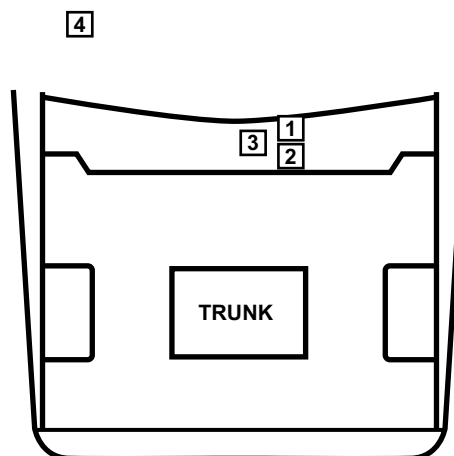

Figure 15-7 XT and XT6 common connector locations
- “XT and XT6 common connector locations” on page 147 (Table 15-7, Figure 15-7)